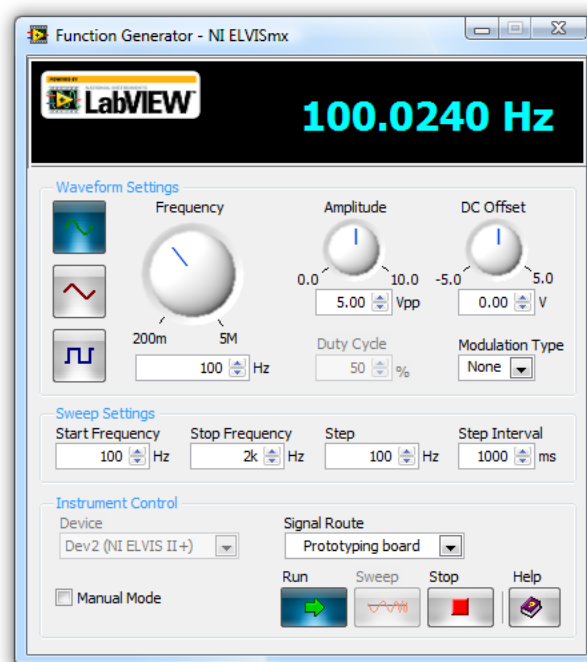

Figure 6.1: NI Elvis II Function Generator.
2. Launch function generator; set 5Vpp, 100 Hz, Sine wave as shown in the figure 6.1.